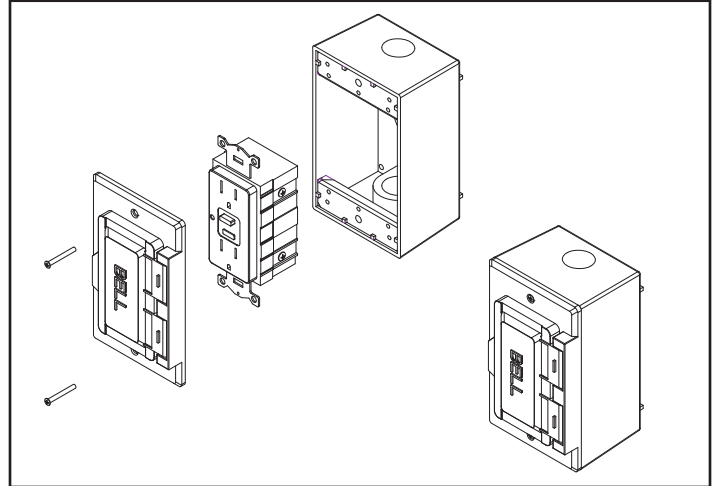

Figure 8. Assemble Junction Box
- Assemble the junction box. Figure 8 represents a typical GFI box configuration. Actual parts may differ in appearance.